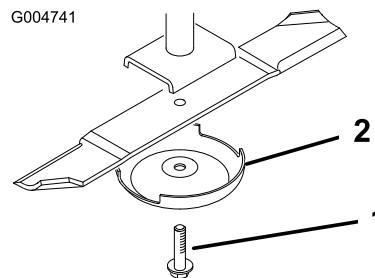

Figure 141
3. Remove the blade bolt, anti-scalp cup, and blade from the spindle shaft (Figure 141).